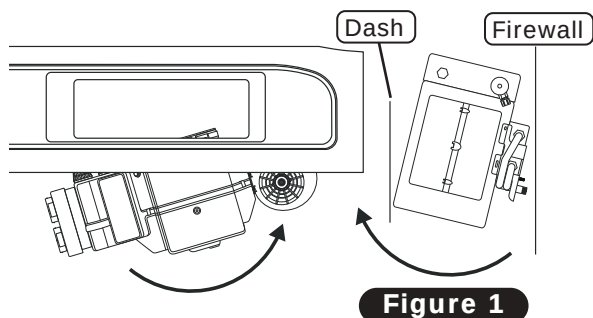

Figure 1
3. Rotate the evaporator module blower end up first, and angle the bottom of the evaporator toward the dash (See Figure 1, below).